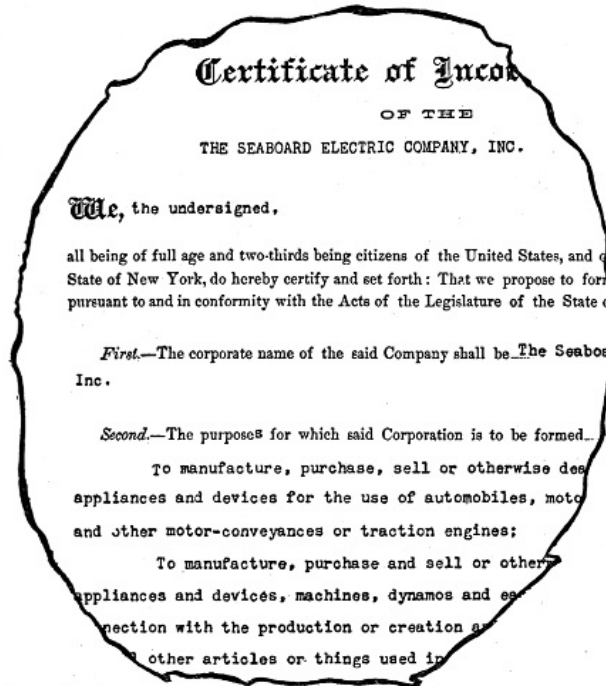

FIG. 83. CERTIFICATE OF INCORPORATION
Then you and the others make, sign, acknowledge and file a *certificate of incorporation*, a reproduction of which is shown in Fig. 83 (see outfit necessary for a Corporation), and this must contain: (1) the name of the proposed company; (2) the purpose for which it is formed; (3) the amount of the *Capital stock* (which means the entire amount of the stock, for which the company is capitalized and which, let's say, is \$10,000); (4) the number of *shares* of which the capital stock is to consist (each share of which must not be less than \$5 nor more than \$100 and the amount of actual capital must not be less than \$500 in cash with which the company is to begin business) and the amount of cash must be stated; (5) The certificate must also contain the name of the city, village, or town, in which its principal business office is to be located; (6) its duration, which you can put at 50 years; (7) the number of its directors which must be not less than three; (8) the names and post-office addresses of the directors for the first year, and (9) the names and post-office addresses of the subscribers to the certificate of incorporation and a statement of the number of shares of stock which each agrees to take in the company. A *certificate of incorporation blank* ready to fill in can be bought for 10 cents of stationers who deal in law books and forms.